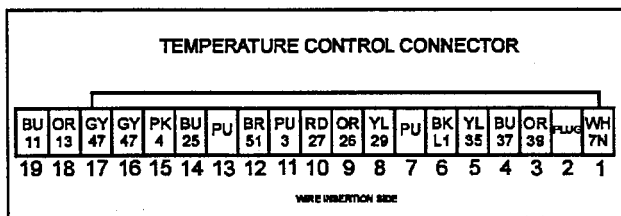

Figure 8-8
- Run a partial hot water fill and check the ohm resistance of the thermistor circuit. To check the ohm resistance, pull the temperature control wire harness connector off the temperature control board and locate the number 16 and 17 sockets in the connector (*Figure 8-8*).